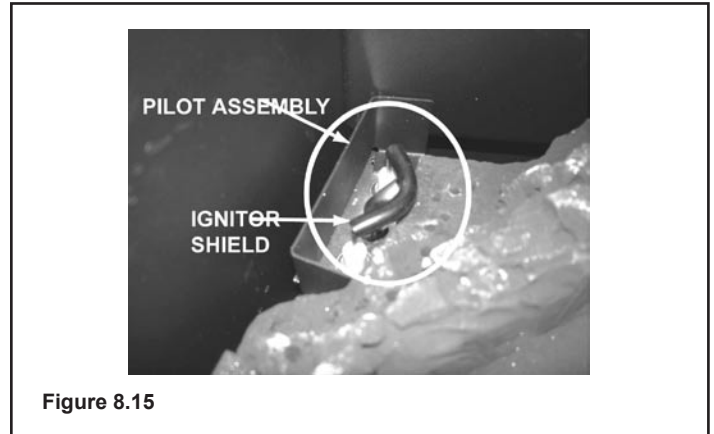

Figure 8.15
**REMOVE THE IGNITOR SHIELD FROM THE PILOT ASSEMBLY PRIOR TO INSTALLING THE LOGS. (Figure 8.15)**